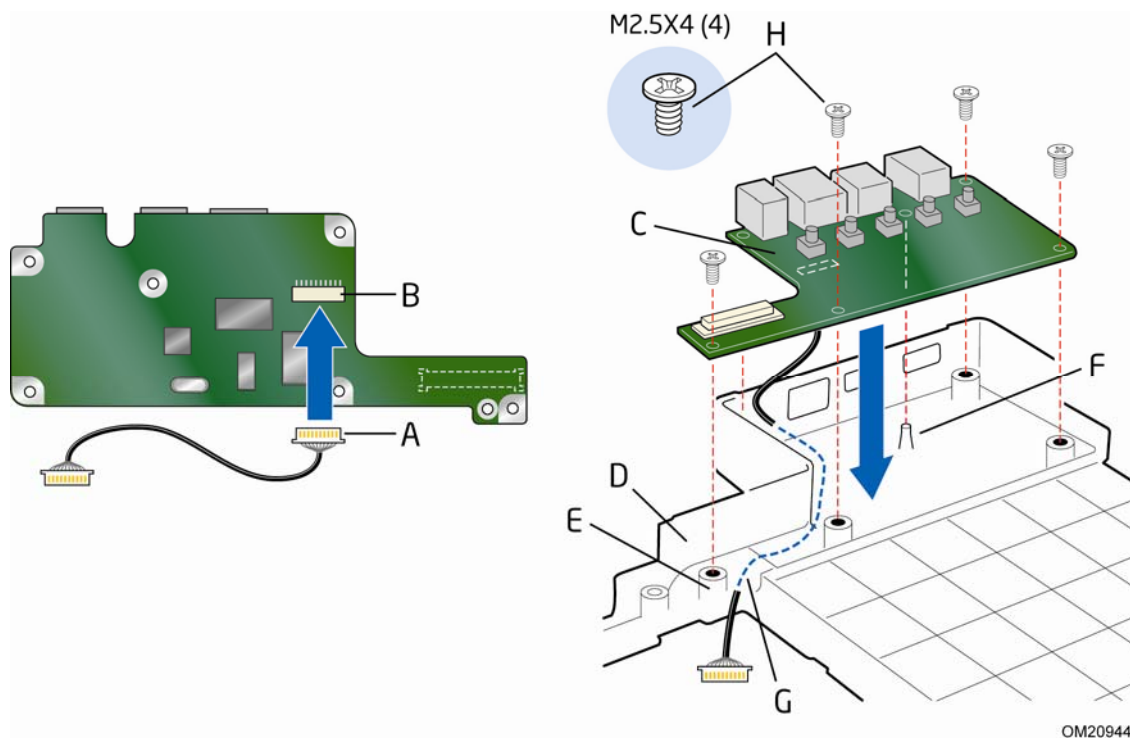

Figure 13. Installing Expansion Board A in the D-tray
To install Expansion Board A in the D-tray, see Figure 13 and follow these steps:
2. Connect the Expansion Board A cable connector (Figure 13, A) to the connector (Figure 13, B) on the bottom of Expansion Board A.
3. Place Expansion Board A (Figure 13, C) into the D-tray (Figure 13, D) on the matching standoffs (Figure 13, E). Make sure that the I/O ports align with the chassis I/O port openings and the alignment pin (Figure 13, F).
4. Route the Expansion Board A cable (Figure 13, G) through the chassis as shown in the figure.
5. Secure Expansion Board A to the D-tray with four screws (Figure 13, H) as shown.